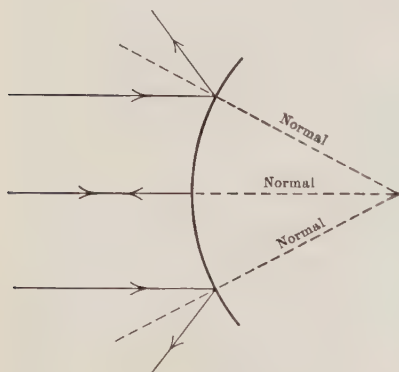

FIGURE 270. — Convex mirrors diverge light.
**182. Regular Reflection from Curved Surfaces.** — The law of reflection holds good for all surfaces, whether rough or smooth, plane or curved. When light falls on a convex mirror, it is reflected regularly but divergently (Figure 270). The radius of the arc is the normal and the incident and the reflected rays make equal angles with this normal. Since